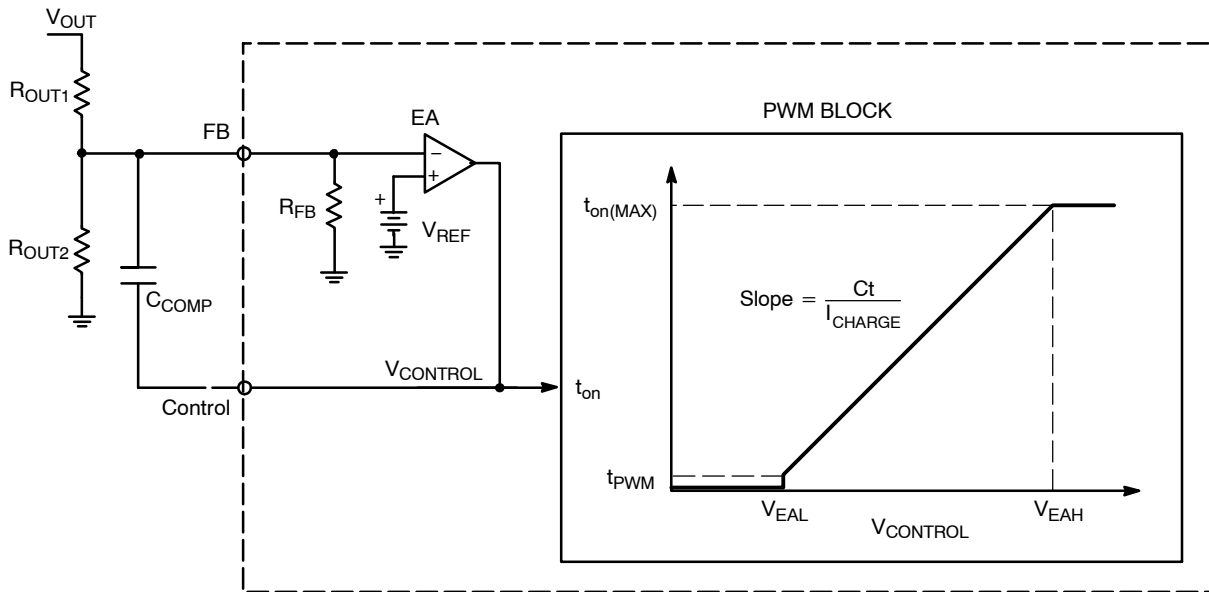

Figure 25. Error Amplifier and On Time Regulation Circuits
The NCP1607 is configured to regulate the boost output voltage based on its built in error amplifier (EA). The error amplifier’s negative terminal is pinned out to FB, the positive terminal is tied to a $2.5 \text{ V} \pm 1.6\%$ reference, and the output is pinned out to Control (Figure 25).